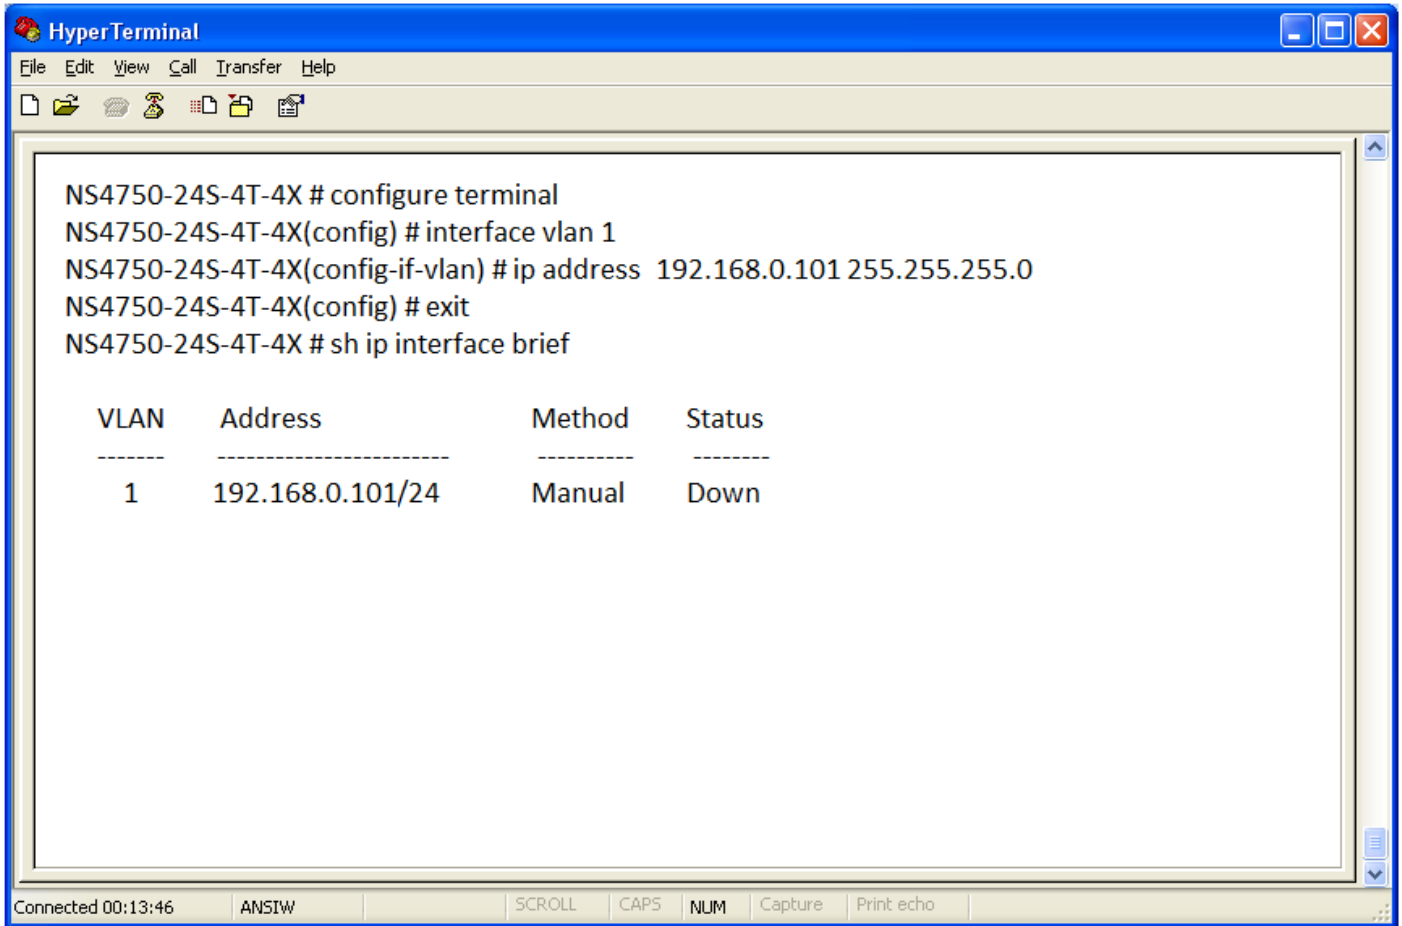

Figure 6-2: Set IP Address Screen
3. On “NS4750-24S-4T-4X#” prompt, enter the following command and press **<Enter>** as shown in Figure 6-2.